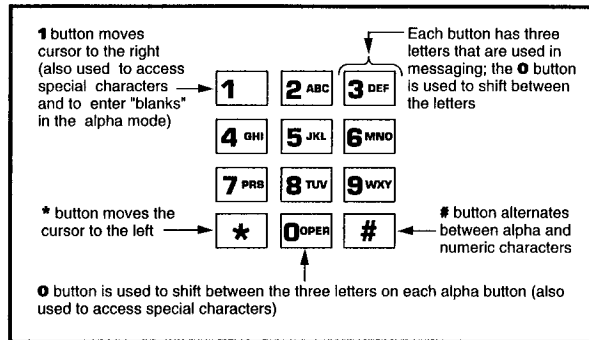

Figure 4-1
1. Press the # button to access alpha characters. Refer to Figure 4-1 for an explanation of the dialpad buttons.